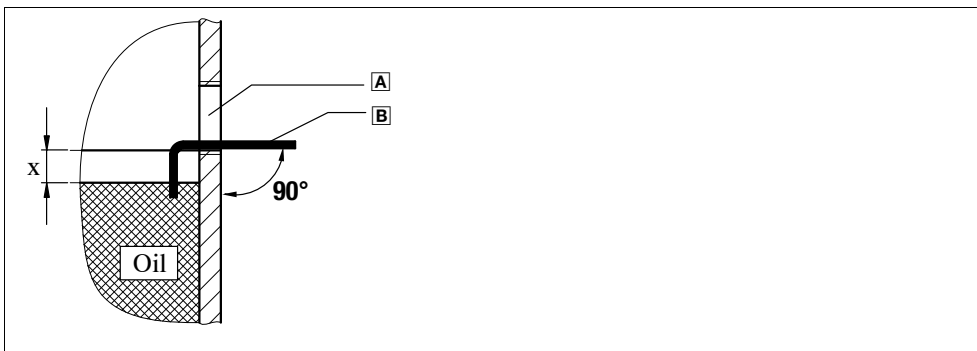

Fig. 3 Oil-level check with auxiliary tool
- Min. oil level: X mm below bottom edge of oil-level bore (see Fig. 3).